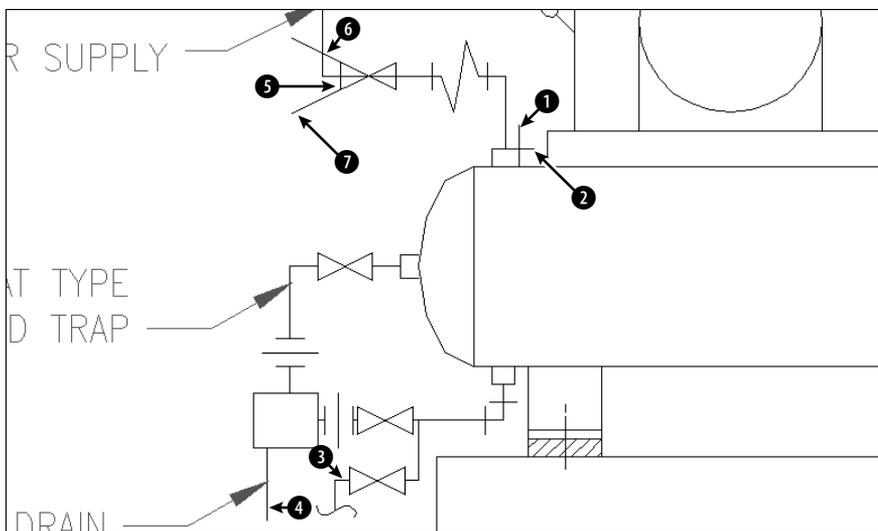
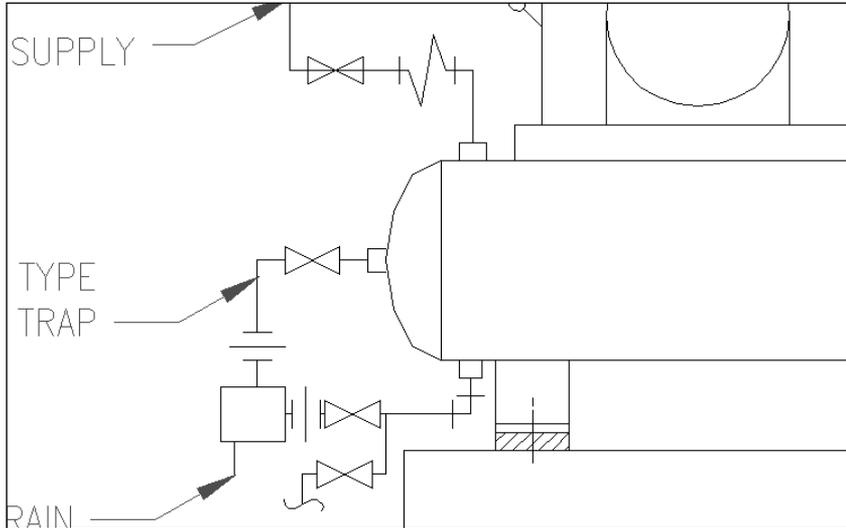

Figure 10-16: A schematic of an air compressor.
Figure 10-17: The completed clamp in two views.
2. Save the file as ab10-05.dwg in your AutoCAD Bible folder. It looks like Figure 10-16.
3. Start the TRIM command. At the `Select objects:` prompt, pick lines at ❶ and ❷ in Figure 10-16 and then press Enter.
4. At the `Select object to trim or shift-select to extend or [Project/Edge/Undo]:` prompt, again pick lines at ❶ and ❷ in Figure 10-16. Be sure to pick them outside the intersection, as shown. Press Enter to end the command.
5. Choose Trim on the Modify toolbar again. At the `Select objects:` prompt, pick the line at ❸ in Figure 10-16 and press Enter.
7. Pick the line at ❹ in Figure 10-16 to trim the line. Press Enter to end the command.
8. Start the TRIM command again. At the `Select objects:` prompt, pick ❺ and press Enter. At the `Select object to trim or shift-select to extend or [Project/Edge/Undo]:` prompt, pick the lines at ❻ and ❼. Press Enter to end the command.
9. Save your drawing. It should look like Figure 10-17.